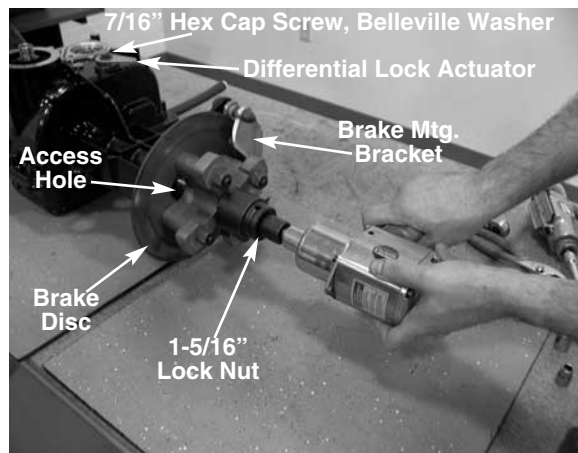

FIGURE 9.
18. Remove the center hub lock nuts on the hub assemblies using a 1 and 5/16" socket. See figure 9.
19. Remove the brake mounting bracket from the differential assembly by rotating the brake disk until the access holes are directly above the hex washer screws. Using a 1/2" socket and extension, remove all three hex washer screws from each side of the differential assembly. See figure 9.
20. Remove the hex cap screw and belleville washer from the differential lock actuator arm using a 7/16 socket. See figure 9.